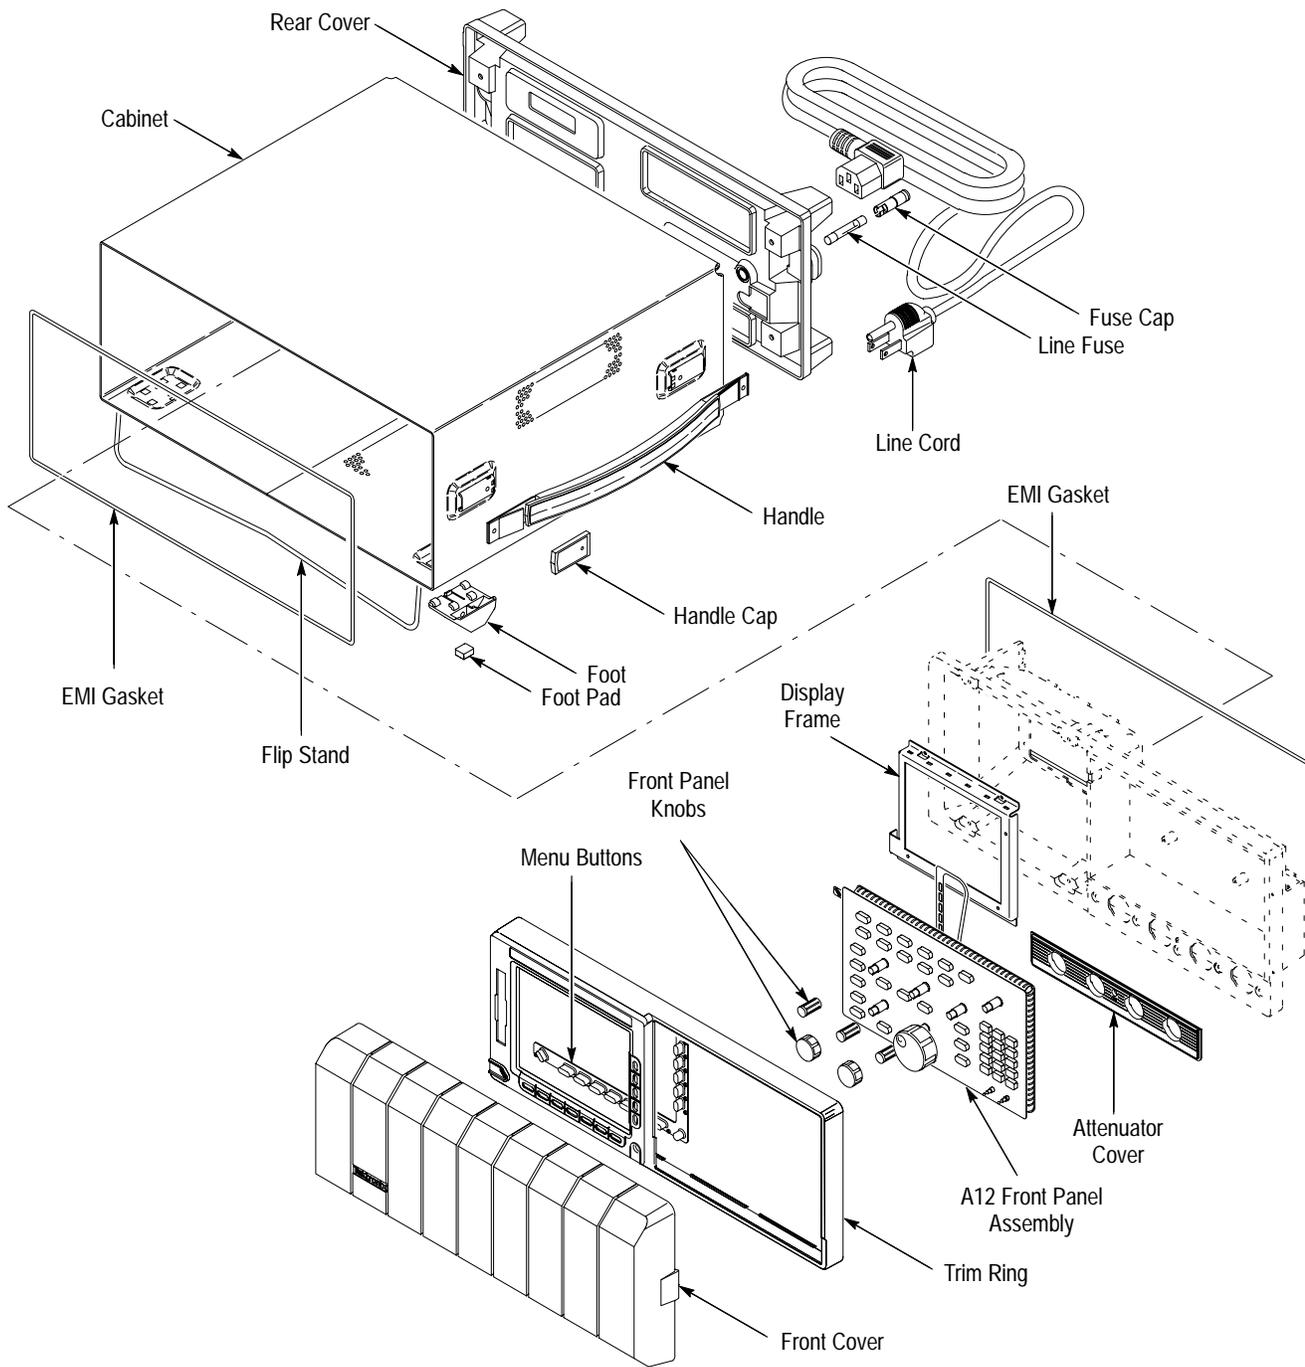

Figure 6-1: External modules
1. *Assemble equipment and locate modules to be removed:* Have a flat-bladed screwdriver (Item 5) handy. Locate the line fuse and line cord in the locator diagram *External modules*, Figure 6-1.
- c. Locate the rear cover and cabinet in the locator diagram *External modules*, Figure 6-1.
- b. Locate the modules to be removed in the locator diagram *External modules*, Figure 6-1.
1. *Assemble equipment and locate modules to be removed:* No tools are needed. Locate the modules to be removed in the locator diagram *External modules*, Figure 6-1.